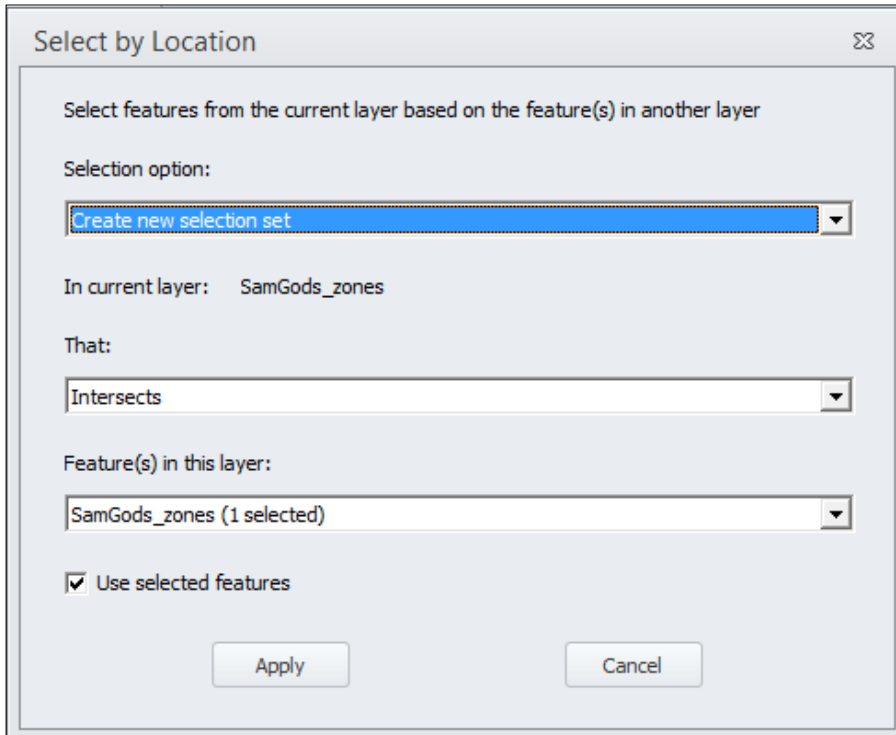

Figure 70 The Select by Location window.
- 6) On the main toolbar, select Datasets -> Select by Location... to access the window in Figure 70 where appropriate changes can be done